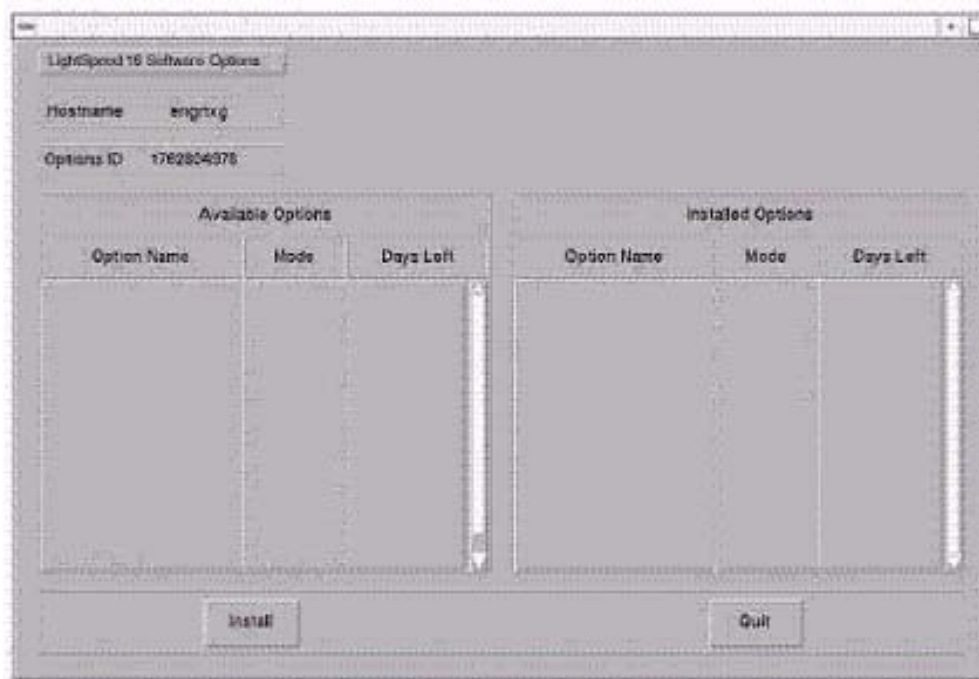

Figure 3-12 Install Options screen
- 5.) Select INSTALL OPTIONS. A blank Software Options screen (Figure 3-12) appears.